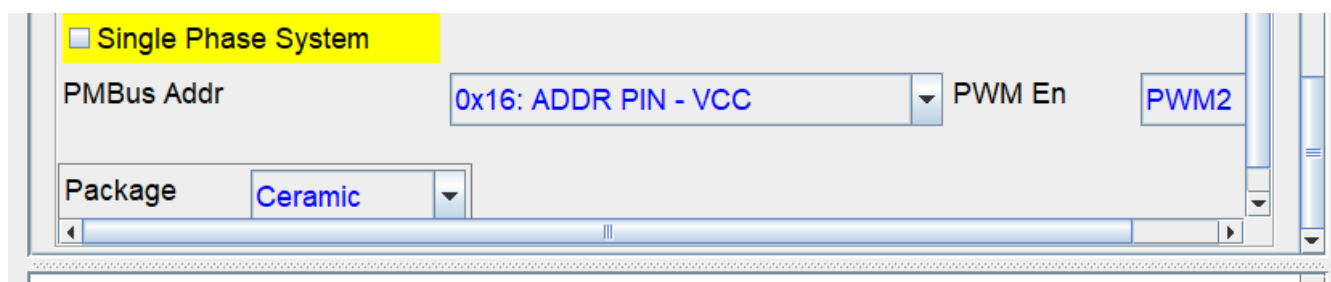

Figure 6. Package Selection
17. Scroll to the bottom of the **DevParaPanel** window and in the Package drop-down list click **Ceramic** as shown in Figure 6.